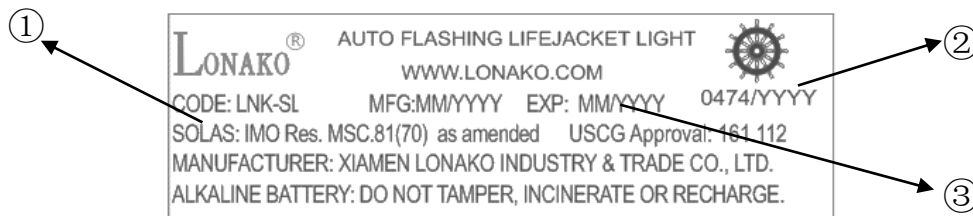

Figure 2-3
2.2.1 The difference between LNK-SL3 and LNK-SL3W lifejacket lights can be identified by the manual switch stick as Figure 2-2, And code number on the label as Figure 2-3 shown.
2.4.1 Standard product marking of LNK-SL3 & LNK-SL3W lifejacket lights are shown as below pictures. Figure 2-3: